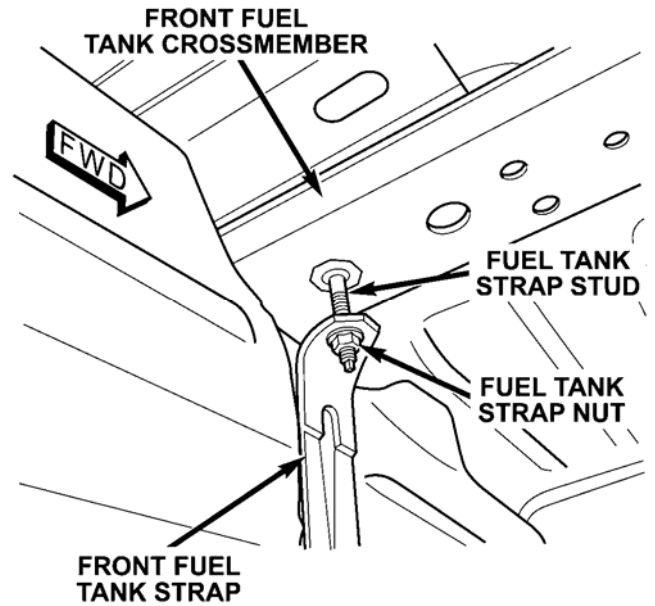

Figure 1 – Front Strap Shown
3. Loosen the front and rear fuel tank strap nuts until 3 to 4 threads of engagement remain (Figure 1).